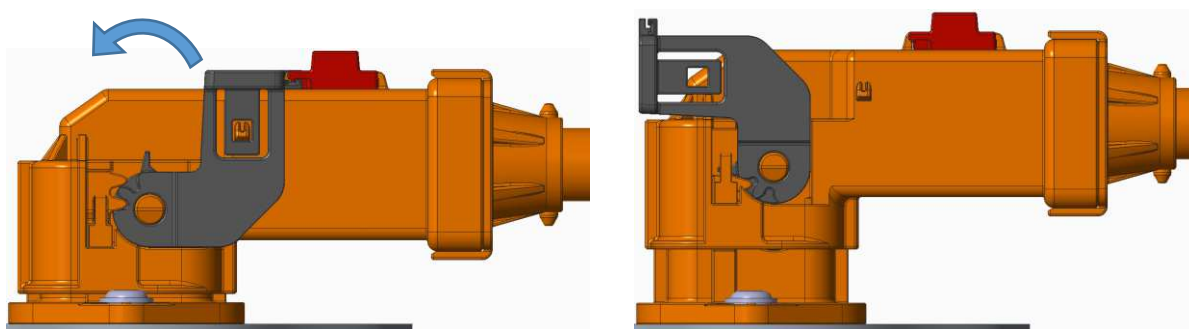

Figure 21: Lever from Close to Open
- Rotate the lever away from the connector body until it is completely in the open position as shown in Figure 21.